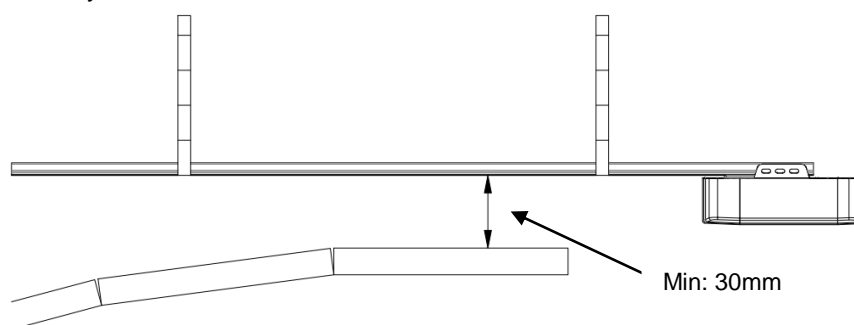

Figure 1
5. There should be a minimum gap of 30mm between the bottom of the chain drive rail and the top of the garage door at it's closest point. (refer to Fig 1.)